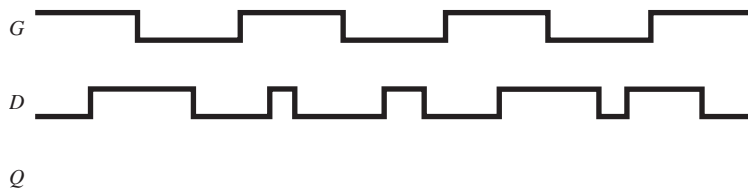

Figure P10-8
- 10-8.** Sketch the Q output waveform for the gated D flip-flop of Figure 10-12 given the D and G inputs shown in Figure P10-8.